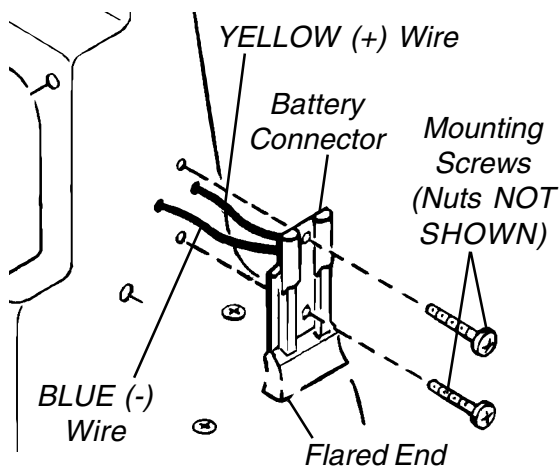

FIGURE 7 - INSTALLING THE BATTERY CONNECTOR
### Installing the Battery Connector (FIGURE 7)
1. Position the BLUE (-) wire through the FRONT hole and the YELLOW (+) wire through the REAR hole as shown in DETAIL "D" of FIGURE 7.
2. If necessary, loosen, but do not remove the two (2) flat screws in the battery connector (DETAIL "E").
3. Visually inspect the battery connector to find the POSITIVE (+) and NEGATIVE (-) channels. Refer to DETAIL "E" of FIGURE 7.
5. Tighten the flat screw to secure the wire to the battery connector. Refer to DETAIL "F" of FIGURE 7.
8. Position the battery connector on the motor shroud with the flared end on the bottom as shown in FIGURE 7.
10. Secure the battery connector to motor shroud with the two (2) mounting screws and nuts. Tighten securely.